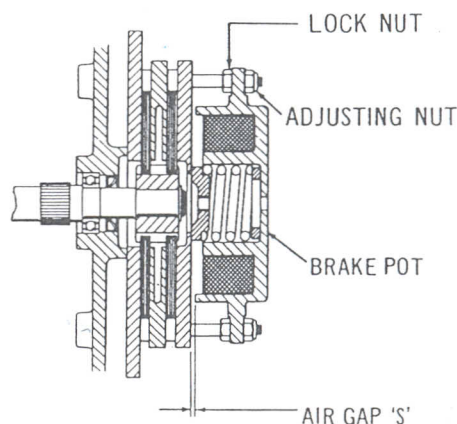

Figure 5-5. Magnetic Brake Adjustment
**DIRECT ACTING MAGNETIC BRAKE ADJUSTMENT.** The direct acting magnetic brake must be properly adjusted to stop rotation when the power supply is shut off. This adjustment compensates for disc type brake lining wear. At least once a month inspect the magnetic brake to determine if adjustment is necessary. Air gap "S" should be 1/32 inch. (Figure 5-5.)